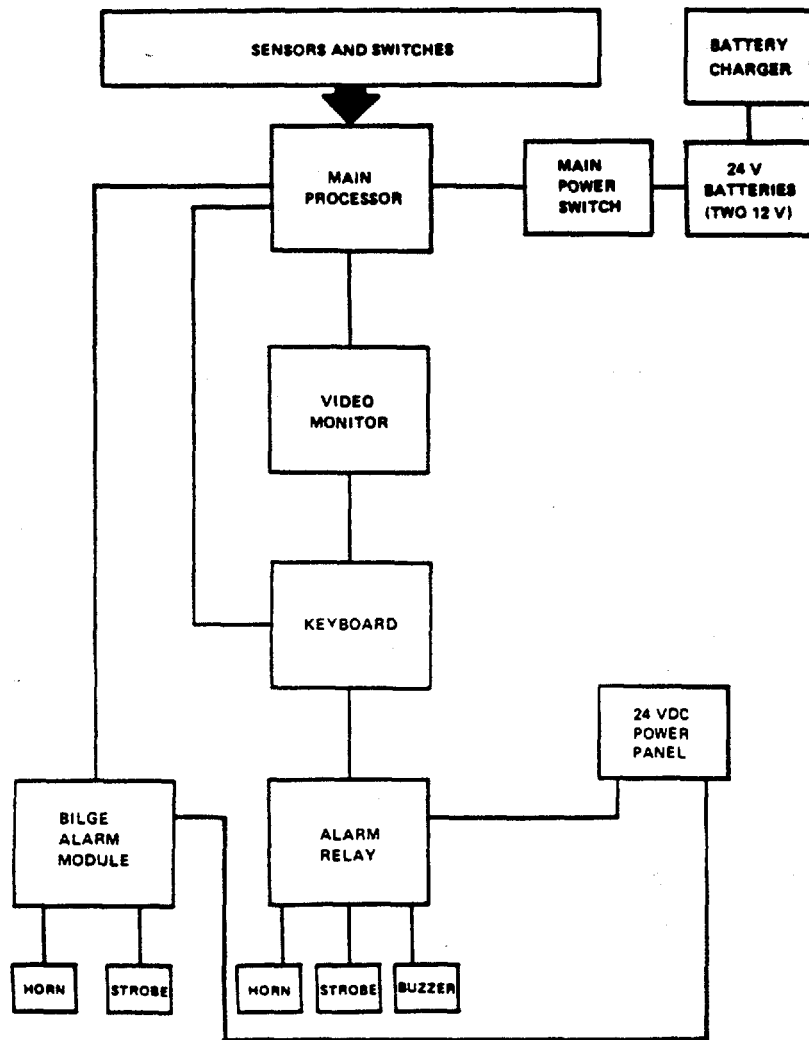

Figure 11-1. Equipment Monitoring System Block Diagram
**11-3 Equipment Monitoring System Description.** This system can accept information from as many as 168 different inputs. On the barge, however, only 39 are used. The keyboard and video monitor make up the station from which an operator selects and views any page of monitored information, acknowledges alarms and sets or changes alarm conditions. The system is designed to operate between 32 and 131 degrees F. See Figure 11-1 which is a block diagram of the equipment monitoring system.